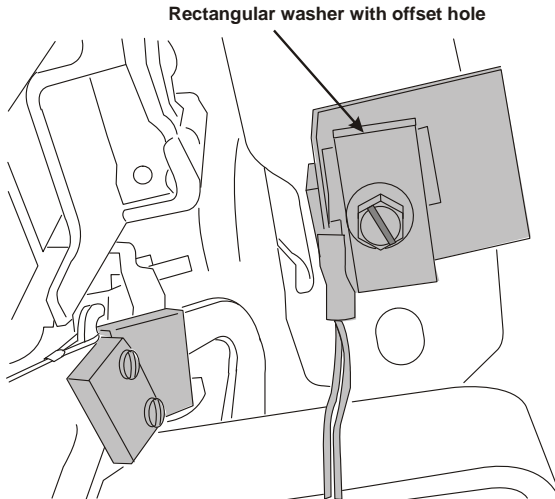

Figure 4.13
- Mount the switch bracket to the frame under the dash. Note the location of the rectangular washer, the hole is offset to provide more clearance (Figure 4.13).